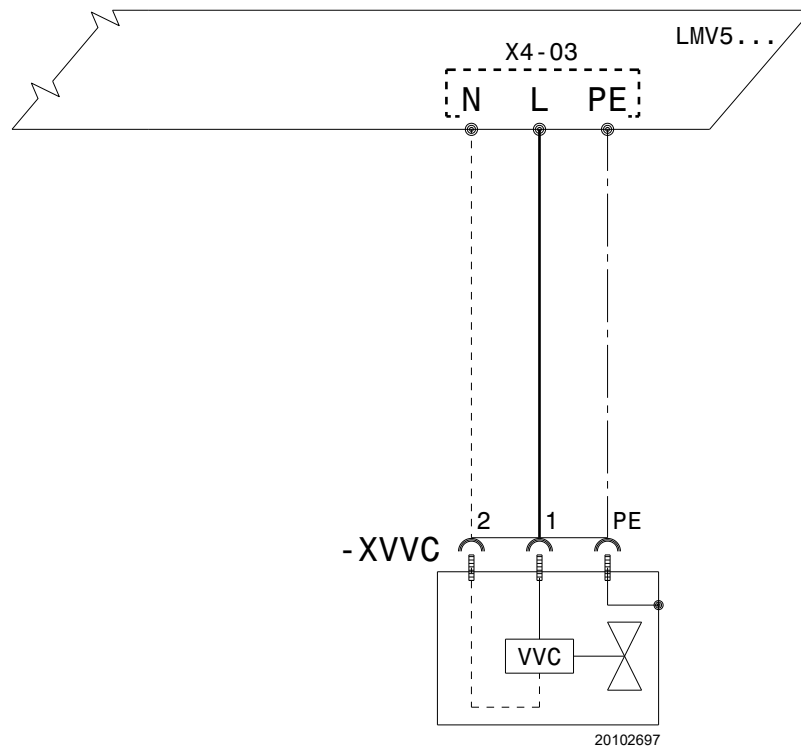

Fig. 8
To carry out the electrical wiring proceed as follows (Fig. 8):
- Connect the power supply of the valve, via the connection supplied with the kit, to the terminals of the connector X4-03 of the LMV5 flame control...(Fig. 8);